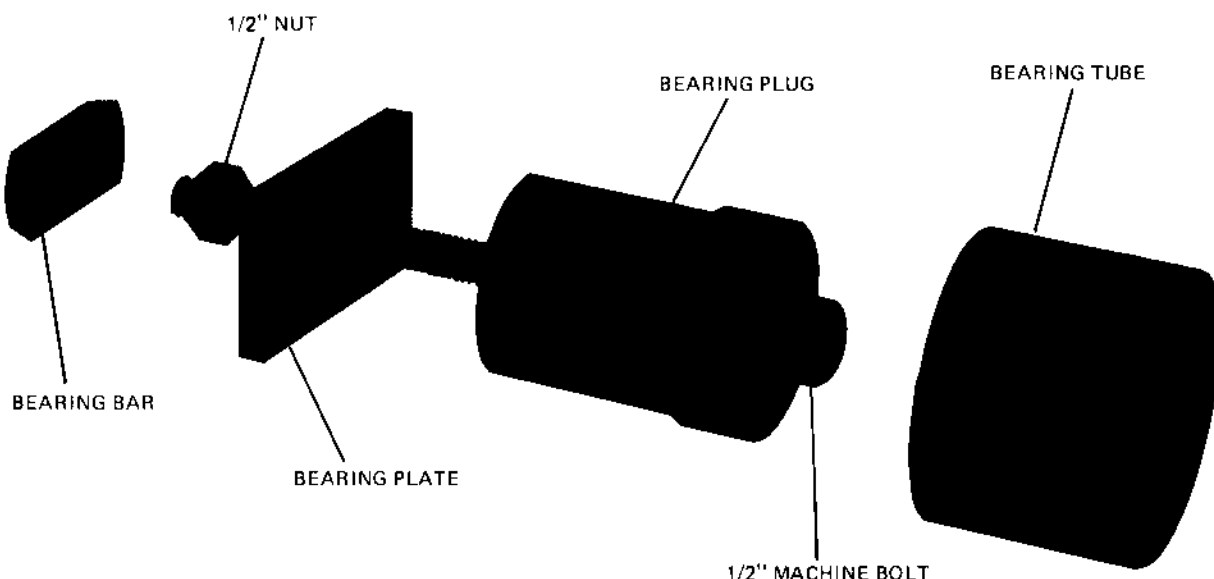

FIG. 10 — BEARING REPLACEMENT TOOL
However, if required, main bearings may be replaced in the field. Refer to Figs. 10 and 11 and proceed as follows:
3. Using the bearing replacing tool (See Fig. 10) pull the worn bearings out of both the pump end bearing head and the compressor bearing housing. Since the outboard opening of the pump end bearing head is smaller than the diameter of the bearing, this bearing must be removed and replaced through the inboard opening using the bearing bar as illustrated in Fig. 11, Detail A. Both bearings at the motor end of the compressor should be removed simultaneously using the bearing plug. (See Fig. 11, Detail B.)